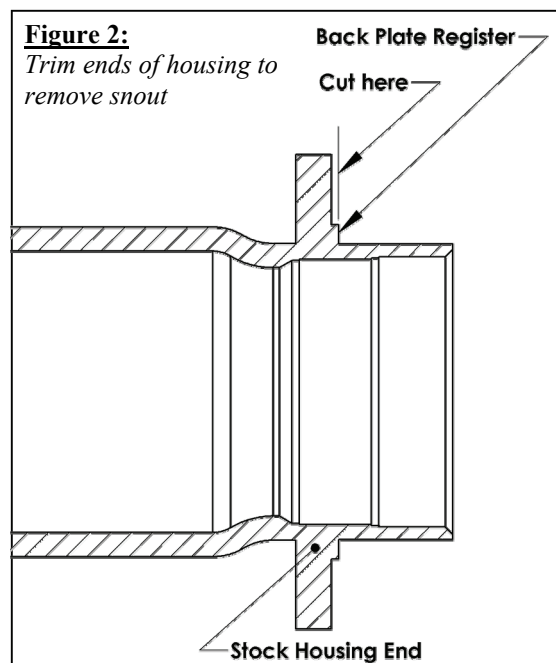

Figure 2:
- 5.) Using a hacksaw, remove stock snouts (see figure 2): leaving only the backing plate register and file **ALL** sharp edges and burrs.